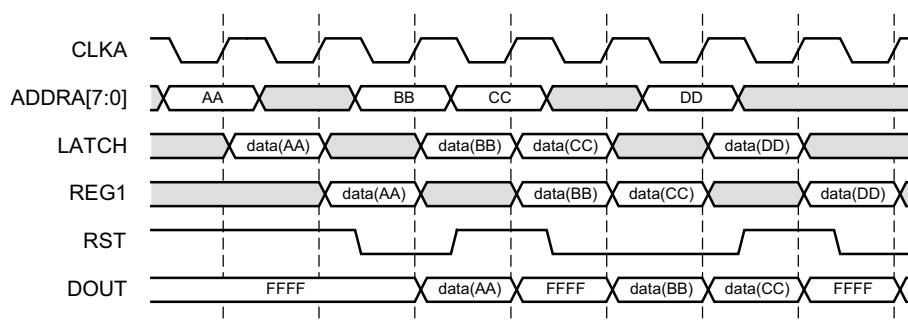
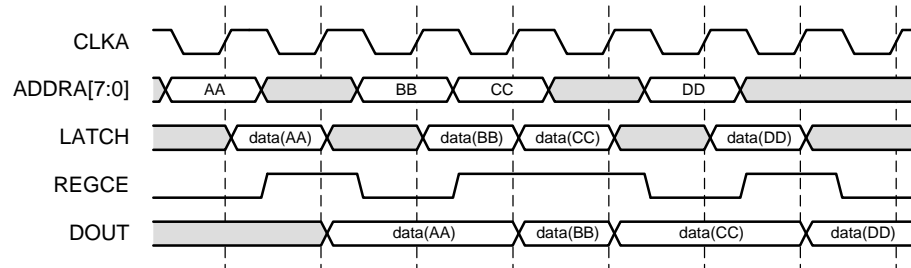

Figure 20: Flow Control Using RST
Figure 21: Flow Control Using REGCE
The combination of the enable (EN), reset (RST), and register enable (REGCE) pins allow a wide range of data flows in the output stage. Figure 20 and Figure 21 are examples on how this can be accomplished. Keep in mind that the RST and REGCE pins apply only to the last register stage.
Figure 20 depicts how RST can be used to control the data output to allow only intended data through. Assume that both output registers are used for port A, the port A reset value is 0xFFFF, and that EN and REGCE are always asserted. The data on the block RAM memory latch is labeled LATCH, while the output of the block RAM embedded register is labeled REG1. The output of the last register is the output of the core, DOUT.
Figure 21 depicts how REGCE can be used to latch the data output to allow only intended data through. Assume that only the memory primitive registers are used for port A, and that EN is always asserted and RST is always deasserted. The data on the block RAM memory latch is labeled latch, while the output of the last register, the block RAM embedded register, is the core output, DOUT.